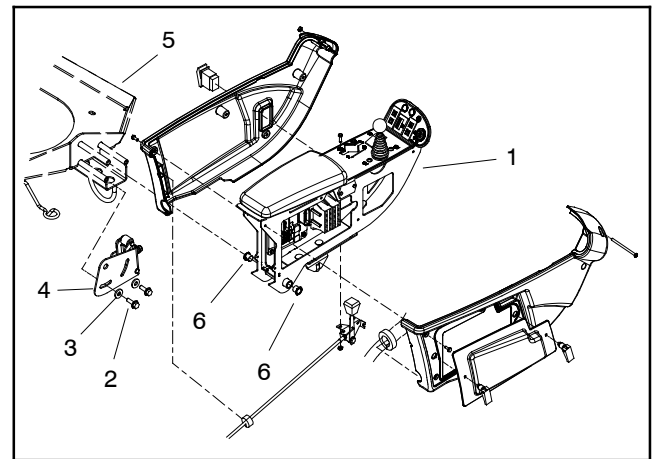

Figure 14
5. Carefully slide control arm assembly from seat base. Locate and retrieve two (2) bushings (Fig. 14). Position and support control arm assembly to allow seat removal.
6. Remove four (4) socket head screws and flat washers that secure seat and seat base to seat adjusters.